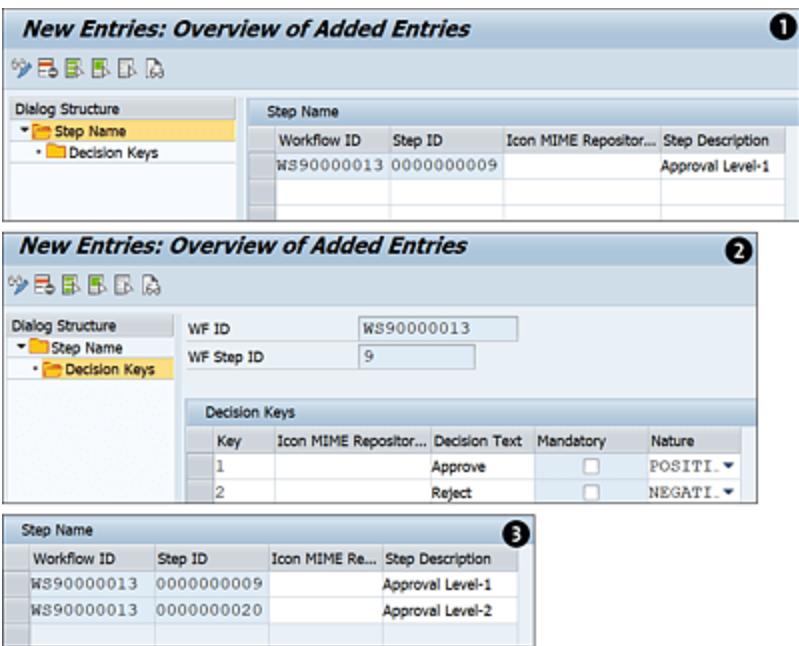

Figure 15.42 Define Steps for My Inbox Approval
Go to Transaction SPRO (SAP Customizing IMG), navigate to **ABAP Platform • SAP Gateway Service Enablement • Content • Workflow Settings**, and execute **Maintain Task Names and Decision Options**. As shown in Figure 15.42, maintain the **Workflow ID** and **Step ID ①** for the approval, that is, user decision activity. Navigate to **Decision Keys** in the **Dialog Structure ②** for each of the steps, and maintain the possible decisions—**Approve** (positive outcome) and **Reject** (negative outcome). You can configure the approval/rejection notes to be **Mandatory** as well. Our custom scenario ID is **WS90000013**, and the step